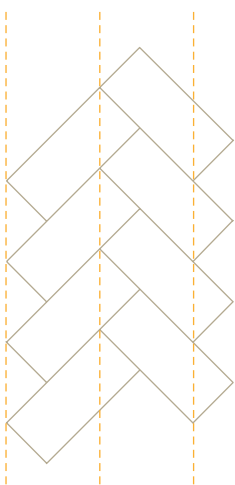

Figure 2: Initial row with reference lines.
- ❗ Be very careful in laying the initial row correctly and at a right angle, as this is crucial for the rest of the installation process and the end-result. Use reference lines to maintain the direction, as minor inconsistencies quickly spread to the rest of the floor. See figure 2.